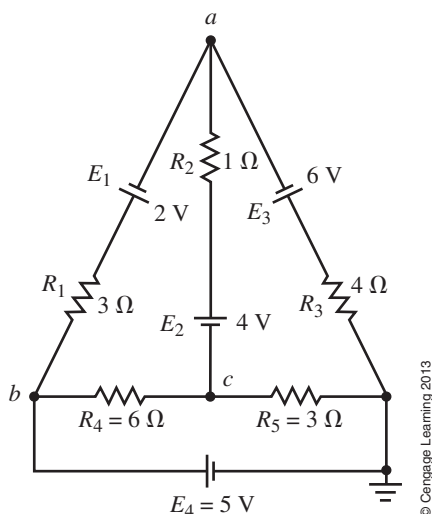

FIGURE 8-86
- Write the mesh equations for the network in Figure 8-86. Solve for the loop currents using determinants.